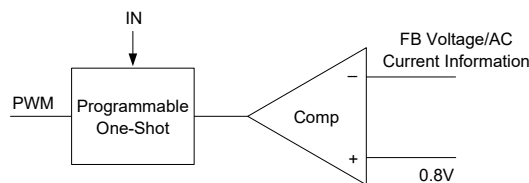

Figure 4. Simplified Control Schematic of AOZ2151PQI-05
The simplified control schematic is shown in Figure 4. The high-side switch on-time is determined solely by a one-shot whose pulse width is inversely proportional to input voltage (IN). The one-shot is triggered when the internal 0.8V is higher than the combined information of FB voltage and the AC current information of inductor, which is processed and obtained through the sensed lower-side MOSFET current once it turns-on. The added AC current information can help the stability of constant-on time control even with pure ceramic output capacitors, which have very low ESR. The AC current information has no DC offset, which does not cause offset with output load change, which is fundamentally different from other  $V^2$  constant-on time control schemes.